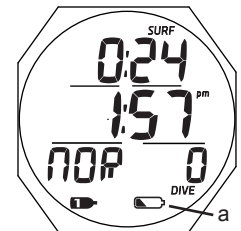

Fig. 1 - SURFACE MAIN (low battery warning)
- Battery icon (shell with inner bar) appears solid (Fig. 1 a).